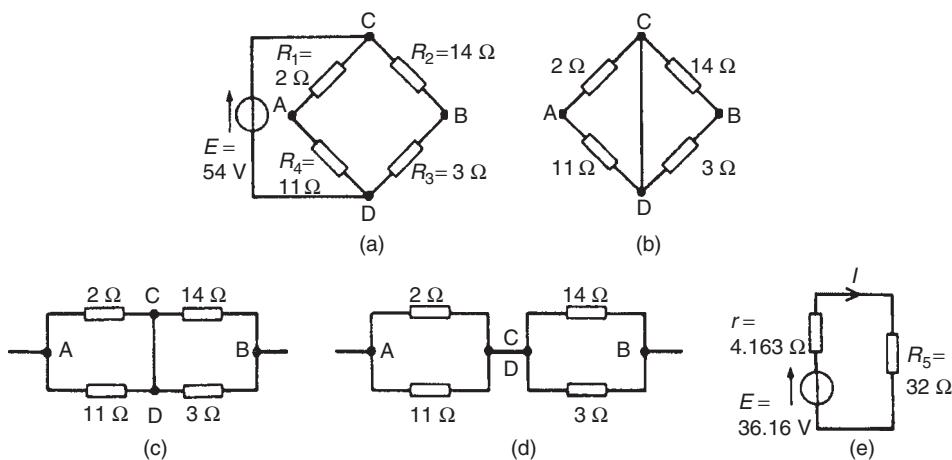

Figure 13.48
- (i) The 32Ω resistor is removed from the circuit as shown in Fig. 13.48(a)
- (iii) Replacing the source of e.m.f. with a short-circuit (i.e. zero internal resistance) gives the circuit shown in Fig. 13.48(b). The circuit is redrawn and simplified as shown in Fig. 13.48(c) and (d), from which the resistance between terminals A and B,
- (iv) The equivalent Thévenin's circuit is shown in Fig. 13.48(e), from which, current